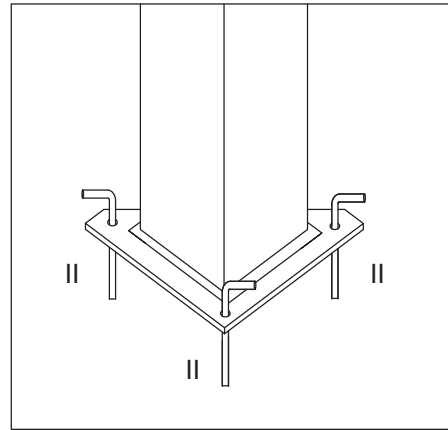

Fig.23
3-e. Adjust position of gazebo and anchor posts to the ground by inserting Stakes (II) into each hole in each Base Plate. See Fig.23.